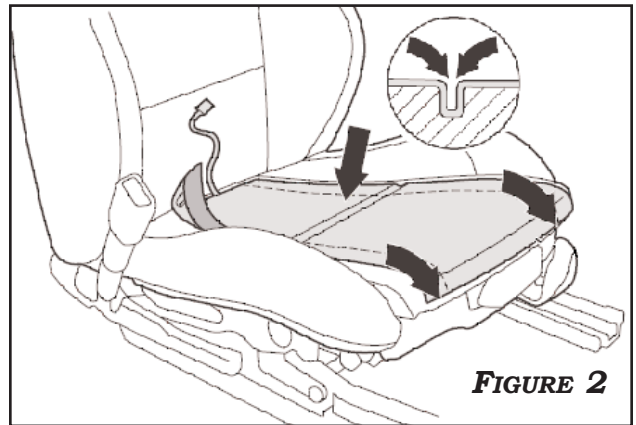

FIGURE 2
1. PLACE HEATING ELEMENT ON SEAT CUSHION TAPE SIDE DOWN, WITH HARNESS TOWARD SEAT BACK. IF THE SEAT HAS A CENTER LISTING, FORM THE ELEMENT INTO THE LISTING VALLEY. **FIGURE 2.**